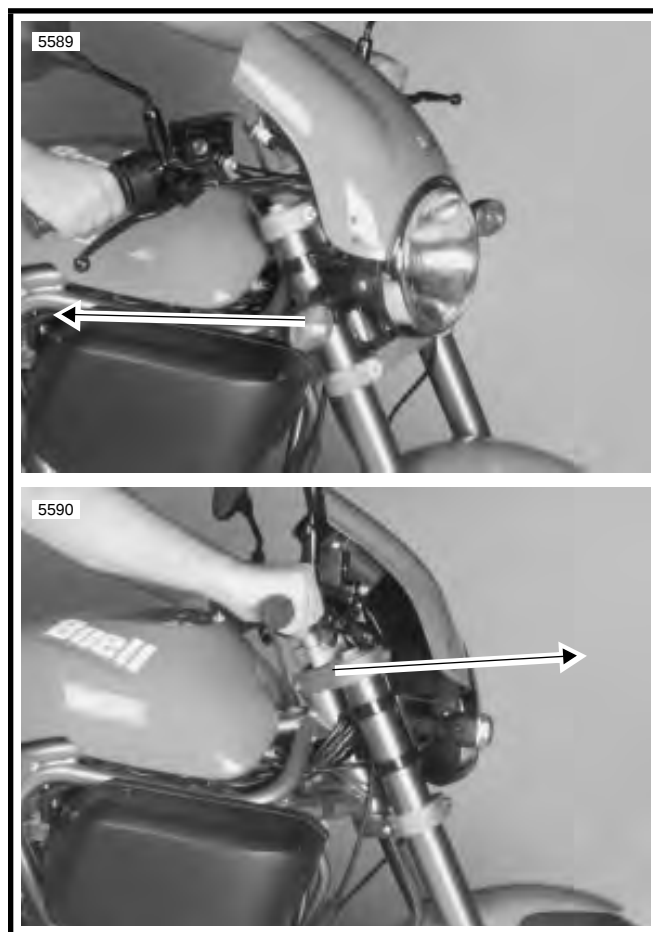

Figure 1-46. Testing Handlebars
- 1. See Figure 1-46. Check steering motion range to both fork stops. Each handlebar should be spaced equally between the windscreen and fuel tank and parts should not make contact.